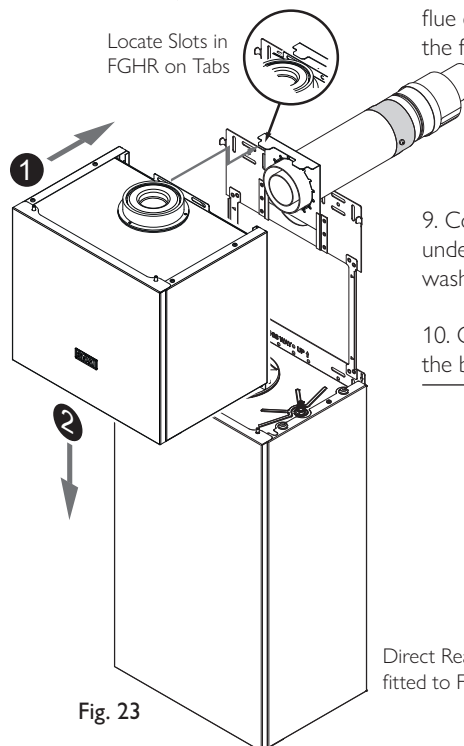

Fig. 23
7. The Assure FGHR can now be fitted (Fig. 23). Locate the slots in the rear of the FGHR on the tabs of the flue collar & upper plate. Lower the FGHR to engage the flue connection on the underside with the boiler adaptor, taking care to not displace the seals.